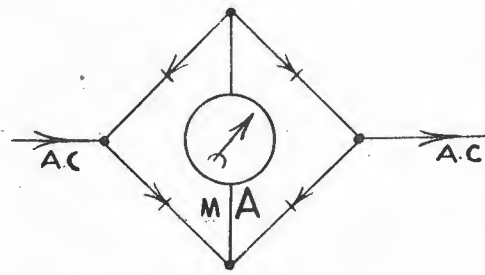

Fig. 2.
D.C. source. Fig. 2 is a modified version of the same circuit and is used in cases where severe interference is being developed and it is desirable to prevent any of it being radiated via the mains. Fig. 3 is applicable in most cases where it is required to prevent any interference from reaching an appliance, such as a radio set, via the mains. Figs. 4 and 5 are useful in cases where an earth is not convenient and Fig. 7 is a variation of these two, for use in cases where severe interference is being experienced from A.C. or D.C. apparatus.
This type of meter uses a bridge rectifier circuit with a low resistance D.C. movement connected directly across its terminals, as shown in fig. 2. It is important that the resistance connected across the D.C. terminals of the